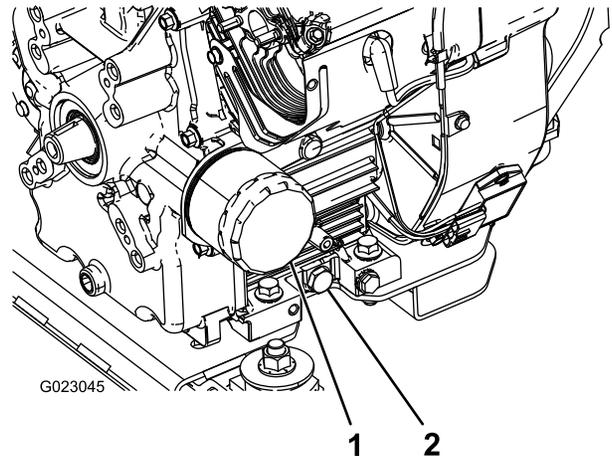

Figure 28
5. Remove the drain plug (Figure 28).
2. Remove the oil filter (Figure 28).
5. Install the replacement oil filter to the filter adapter. Turn the oil filter clockwise until the rubber gasket contacts the filter adapter, then tighten the filter an additional 1/2 turn (Figure 28).